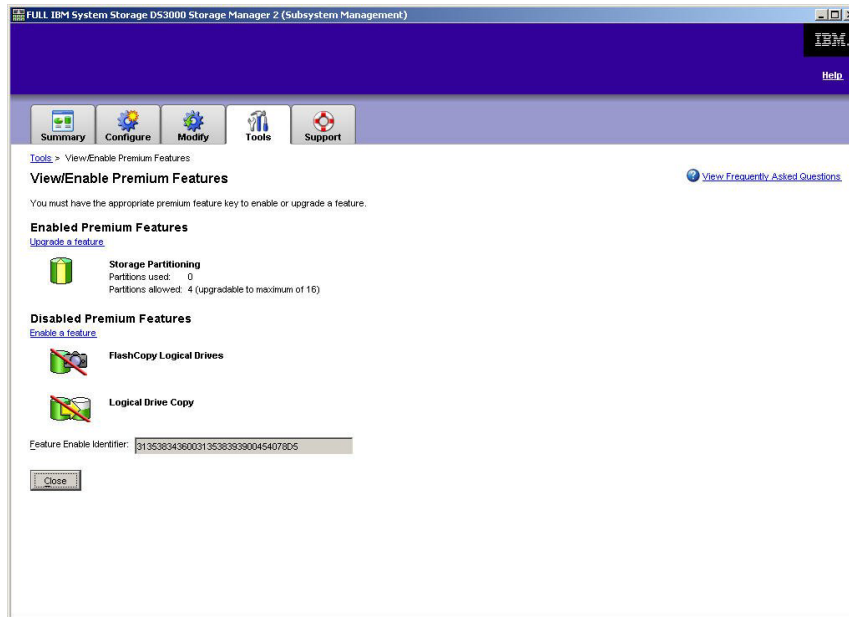

Figure 27. View/Enable Premium Features window
2. Under **Enabled Premium Features**, click **Upgrade a feature**, as shown in Figure 27.
2. Under **Disabled Premium Features**, click **Enable a feature**, as shown in Figure 27. The Select Feature Key File window opens.
2. Under **Disabled Premium Features**, click **Enable a feature**, as shown in Figure 27 on page 106. The Select Feature Key File window opens.